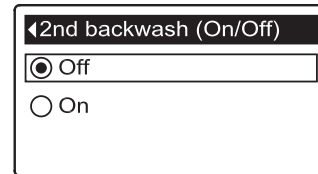

FIG. 69
8b. Second backwash (On/Off): If the desired option already has a black dot next to it (See Figure 69), go to Step 9. Otherwise, press the DOWN (▼) or UP (▲) buttons to scroll to the other option, then press SELECT (O) to choose it. Setting this feature On adds a second backwash and rinse at the beginning of the recharge cycle. Default is Off. Set this feature On if your water supply contains a lot of sediment or iron.